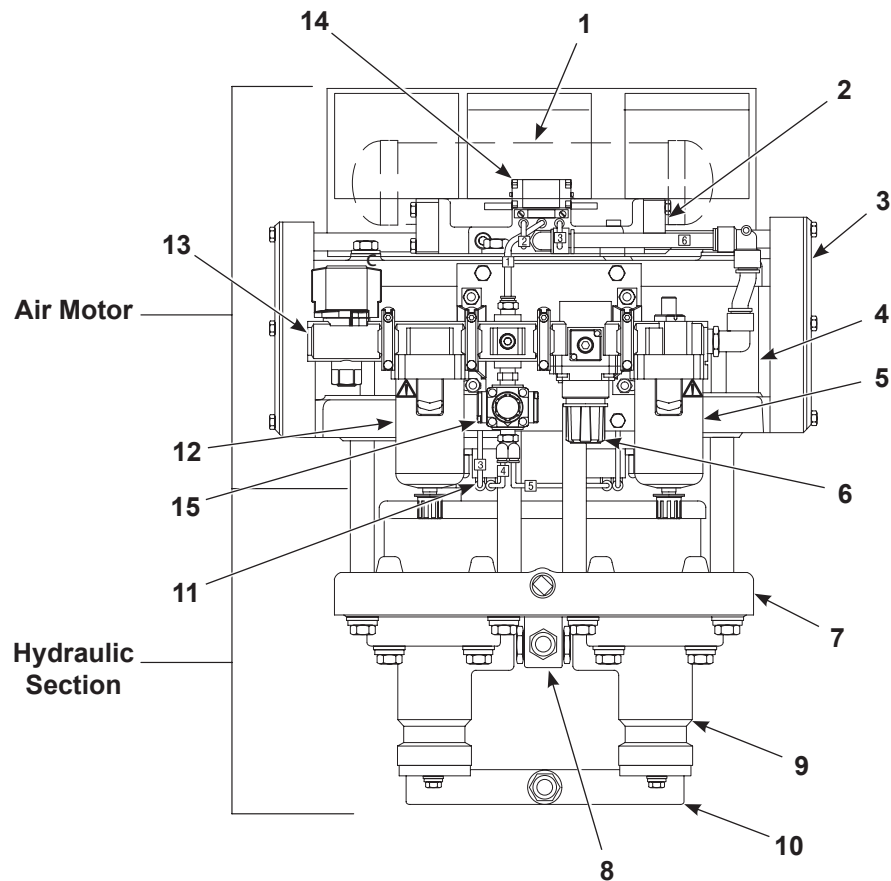

Figure 2-2 Air Pressure-to-Fluid Pressure Ratios
See Figure 2-2. The air motor consists of two cylinders (4) containing two spring-return pistons. A modular air preparation system consisting of an air filter (12), regulator (6), and lubricator (5) conditions the compressed air used to control and operate the air motor.